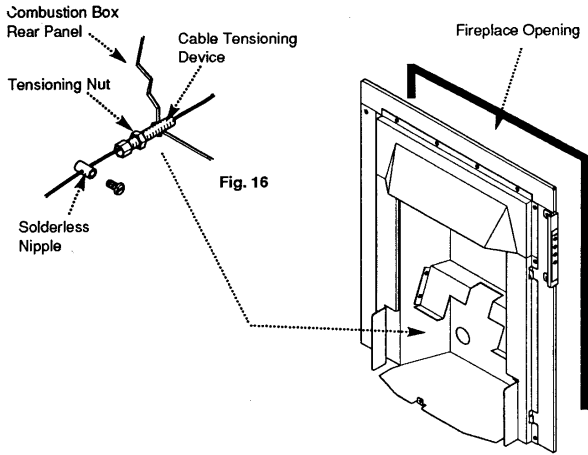
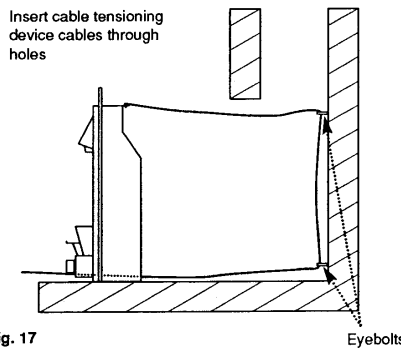

Fig. 16
Fig. 17
8. Engage the tensioning nuts on the threaded shanks of the tensioning devices. Run the nuts down to the hexagonal heads of the tensioning devices (Fig. 16).
9. From the front insert the cable tensioning devices through the combustion box rear panel. The hexagonal heads must be to the inside of the box (Fig. 16).
10. Position the appliance in front of the fireplace opening and insert the cables in the holes in the combustion box rear flange (Fig.17). Pass the cables through the eyebolts in the builders opening rear face and insert them in the tensioning devices (Fig. 16 & 17). Manoeuvre the appliance backwards into the opening, drawing any slack length of cable through the tensioners.
12. Run the solderless nipples down the cables to the tensioners and tighten their securing screws (Fig. 16). As required, take the relevant grommet(s) and slide over the gas and/or electrical supplies. Run the grommet(s) down the pipe and insert in the hole in the rear panel (Fig. 18).